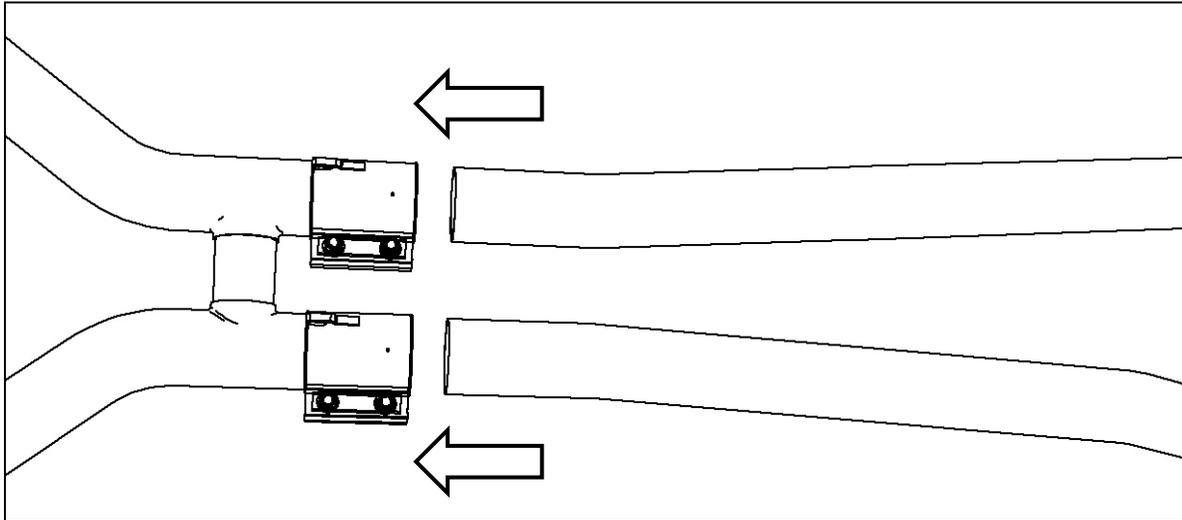

Figure 8
3. Insert the two (2) Midpipes Assemblies (LH #R12020032 & RH #R12020033) into the double-sided clamps on the H-pipe. Refer to Figure 8.